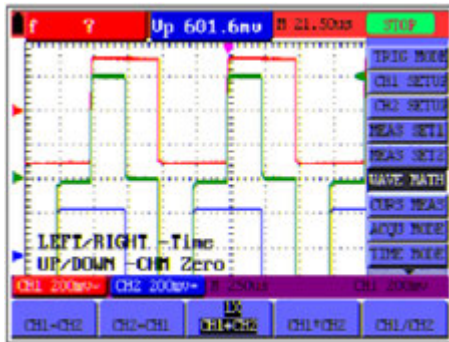

Figure 15.- Waveform mathematics.
- Press the “**OSC ▲**” or “**OSC ▼**” key to adjust the position of the waveform Math. Now, look at the display and you will find a screen that looks like the following Figure 15.